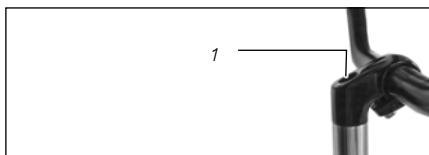

Fig.:22
1. Remove the cap on the top of the handlebar stem with the internal clamp facing upwards (see "Fig.:22 (1)").